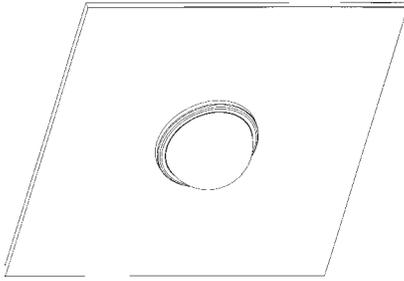

Figure 3
- Attach the dome/trim ring by lining up the dots on the box and the trim ring. Push on one side of the trim ring near the flat section of the box, then push on the other side of the trim ring until it snaps into place. Listen for a distinct click to ensure ring is securely in place. See **Figure 3**.